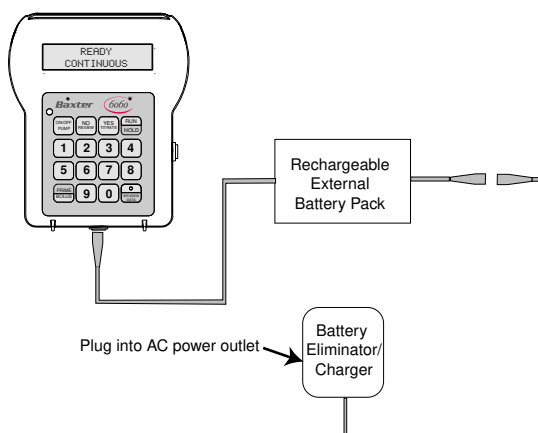

Figure 7-3 *Connecting the Battery Eliminator/Charger*
Recharge the Rechargeable External Battery Pack by plugging it into the Battery Eliminator/Charger (see Figure 7-3). The Rechargeable External Battery Pack will charge more quickly if it is disconnected from the pump or if the pump is turned off, but it will charge while the pump is operating. See “Using the Battery Eliminator/Charger,” 7-9.
To charge the Rechargeable External Battery Pack while the pump is running, connect it to the Battery Eliminator/Charger as shown in Figure 7-3.
- To connect the Battery Eliminator/Charger, insert its connector into the pump's **EXT POWER** connector. (See Figure 7-3).